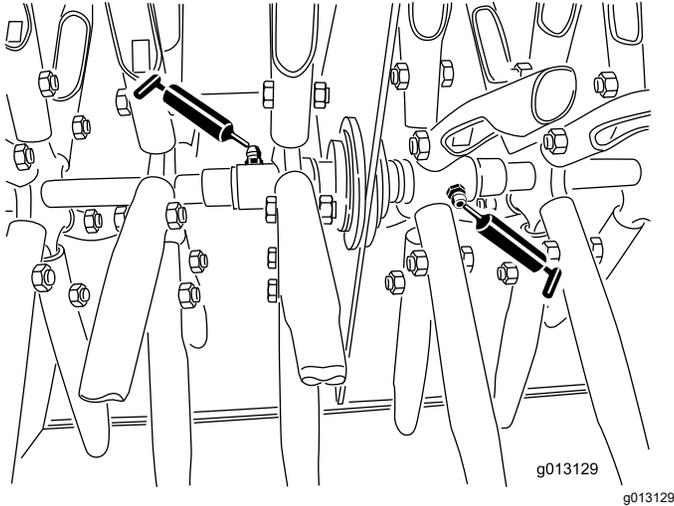

Figure 23
3. Manually rotate the 2 center tine assemblies until you can see the grease fittings (Figure 23).